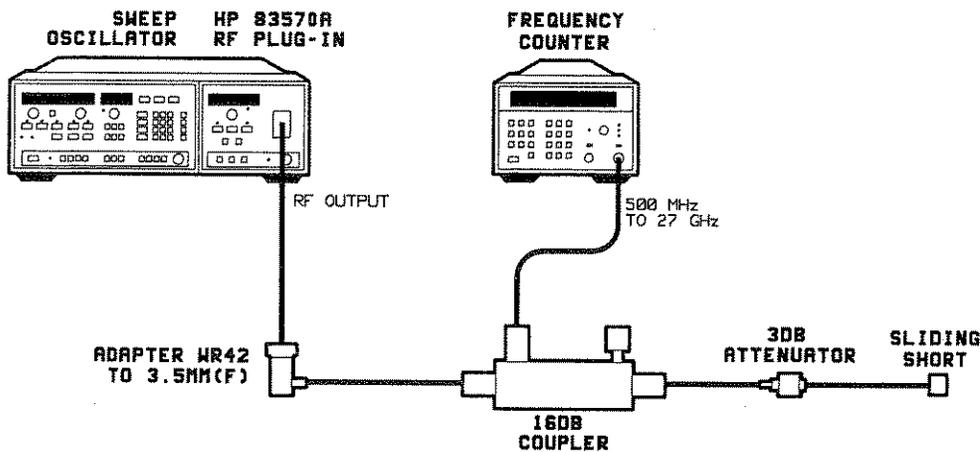

Figure 4-4. Frequency Change with 3:1 Load SWR Test Setup
7. Connect the equipment as shown in Figure 4-4.